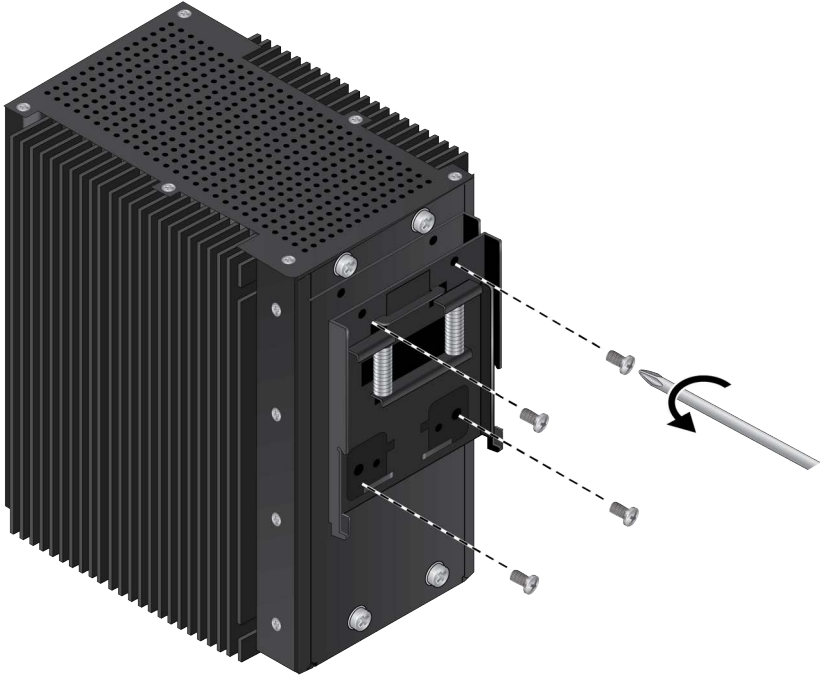

Figure 33. Removing the DIN Rail Bracket from the Switch
2. With a cross-head screwdriver, remove the four screws holding the pre-installed DIN rail bracket, and remove the bracket. Refer to Figure 33 on page 85.